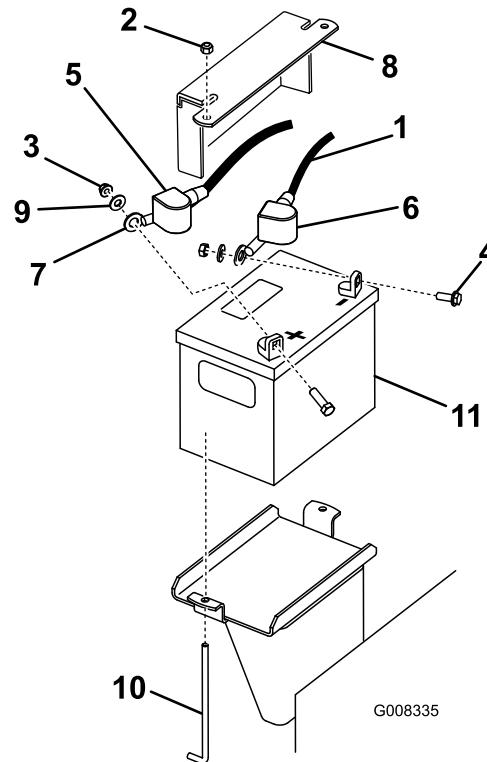

Figure 43
- Lift the black rubber cover on the negative cable. Disconnect the negative battery cable from the negative (-) battery terminal (Figure 43).
4. Slide the red terminal boot off the positive (red) battery terminal. Then remove the positive (red) battery cable (Figure 43).
5. Remove the hold down plate, j-bolts, and locknuts securing the battery (Figure 43) and remove the battery.
1. Place the battery onto the machine (Figure 43).
3. First, install the positive (red) battery cable to positive (+) battery terminal with a nut, washer and bolt (Figure 43). Slide the rubber cover over the post.
4. Then install the negative battery cable and ground wire to the negative (-) battery terminal with a nut, washer and bolt (Figure 43). Slide the rubber cover over the post.